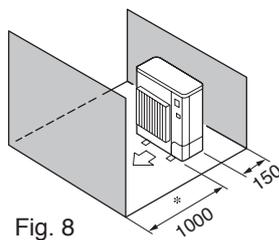

Fig. 8
- (5) Obstacles at front and rear only (Fig. 8)